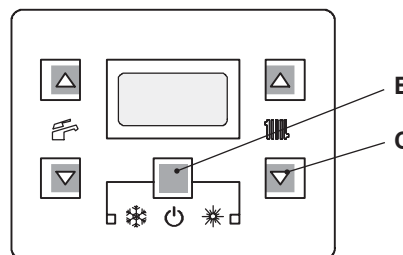

Figure 9.11
- 7 To exit for setting without modifying the set press the keys (B - C Figure 9.11)